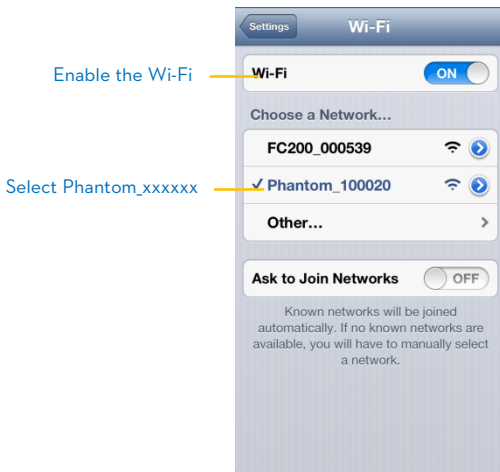

Fig.1
3. (Fig.1) Enable the Wi-Fi on your mobile device; wait for about 30 seconds, and then select the Phantom\_xxxxxx from the Wi-Fi network list.